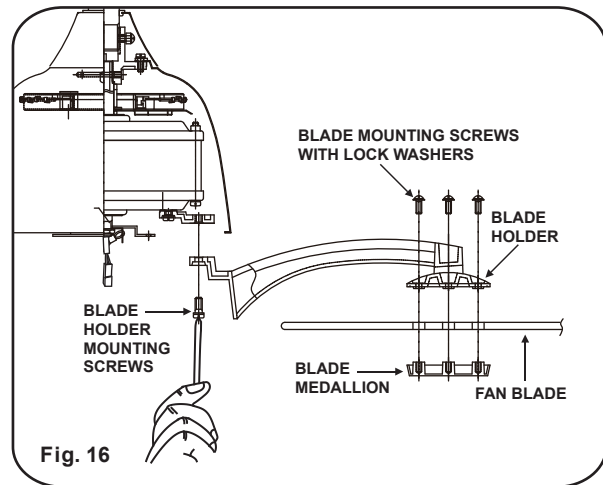

Fig. 16
Step 1. Attach the blade to the blade holders and blade medallions using the blade mounting screws with lock washers (3/16" x 15mm) as shown in Figure 16. Start a screw into the blade holder, do not tighten. Repeat for the 2 remaining screws and washers.
Step 3. Fasten blade assembly to motor using the blade holder mounting screws (1/4"*1/2") supplied. (Fig. 16)